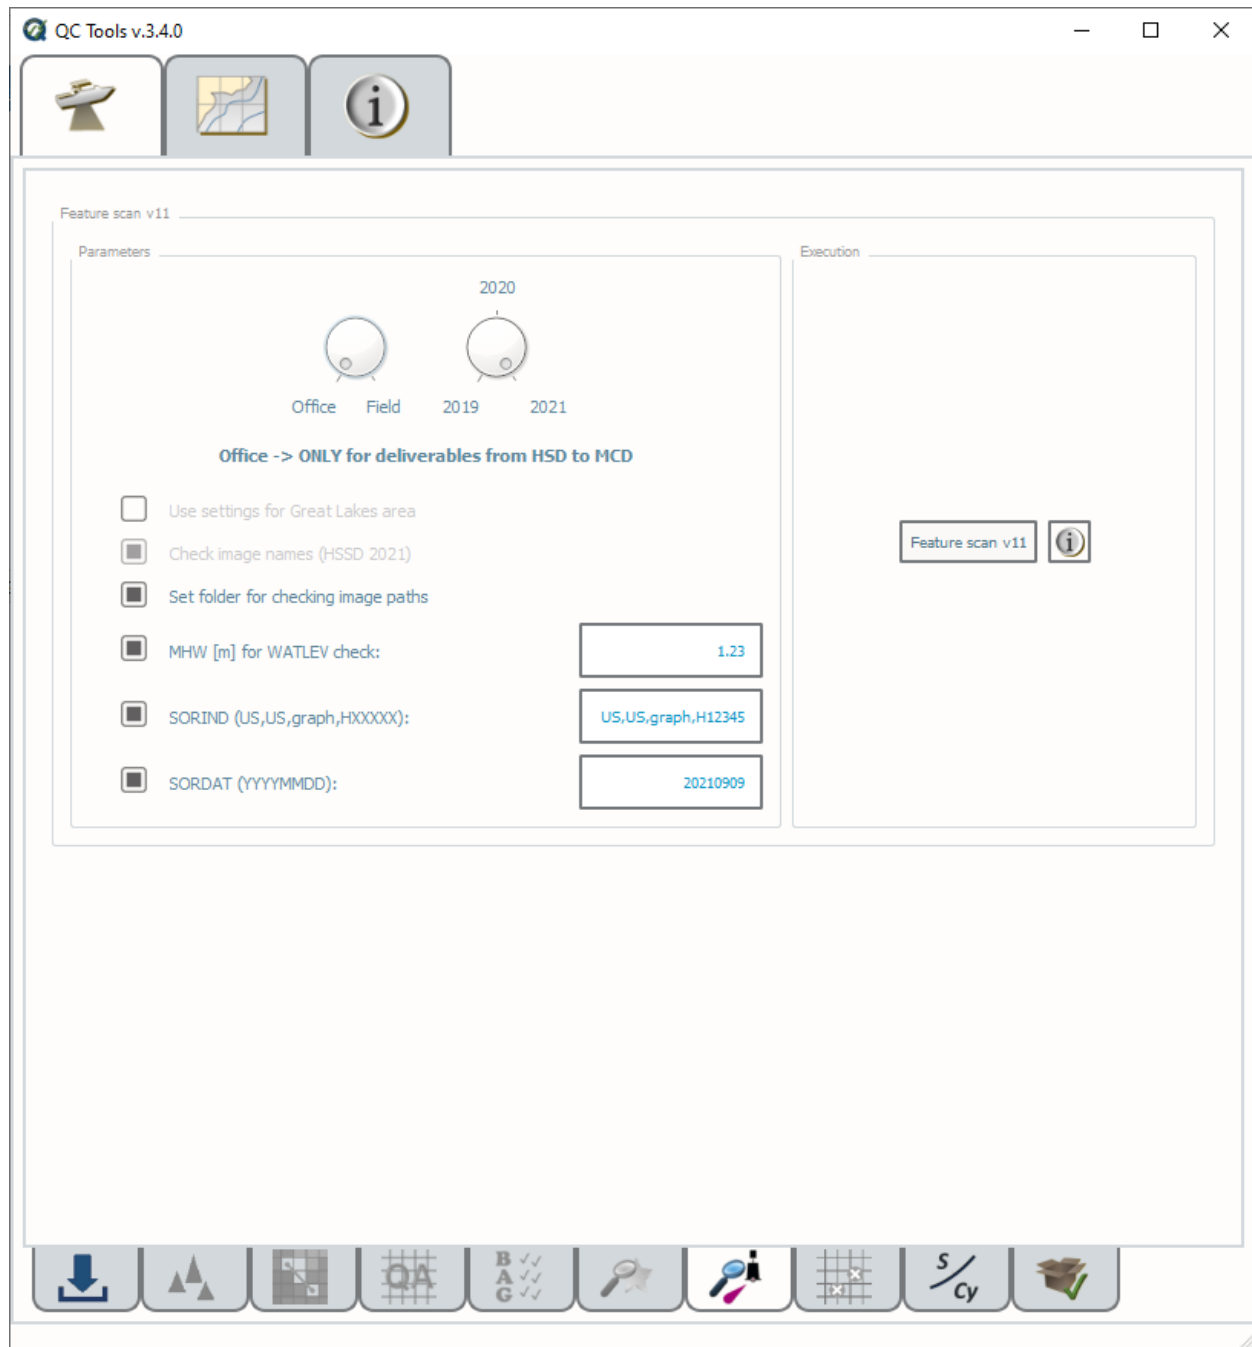

Fig. 2.42: The Scan features tab.
- Select the **Scan features** tab (Fig. 2.42) on the bottom of the QC Tools interface.